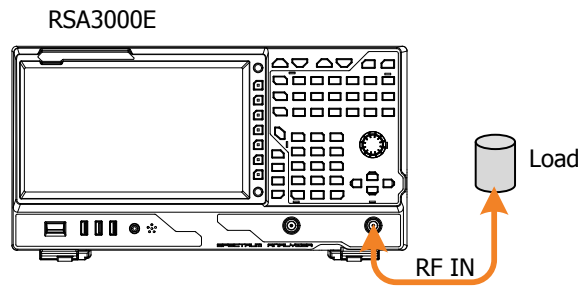

Figure 2-1 DANL Test Connection Diagram
1. Connect the 50 Ω matched load to the RF input terminal of RSA3000E, as shown in Figure 2-1.